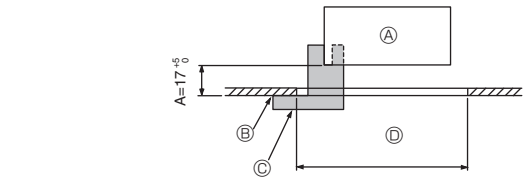
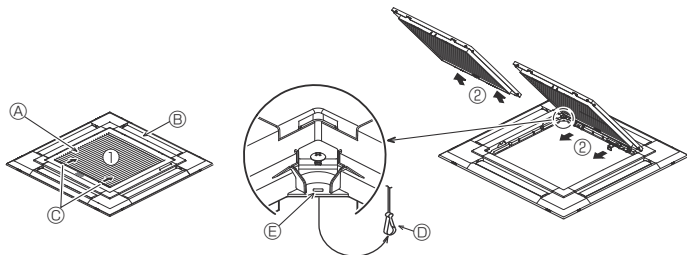
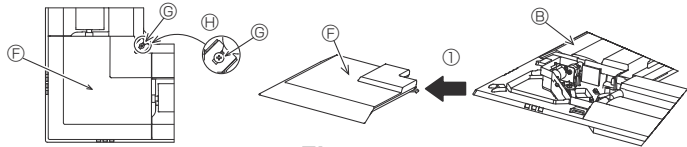

Fig. 7-2
Fig. 7-3
Fig. 7-4
①	Grille	1	950 × 950 (mm)
②	Installation gauge	1	(Divided into 4 parts)
③	Screw (4 × 16)	1	For PLP-6EAE, PLP-6EALME, PLP-6EALME
④	i-see Sensor corner panel	1	For PLP-6EAE, PLP-6EALME, PLP-6EALME
⑤	Wireless remote controller	1	For PLP-6EALM, PLP-6EALME
⑥	Remote controller holder	1	Included when equipped with the wireless remote controller.
⑦	LR6 AA batteries	2	Included when equipped with the wireless remote controller.
⑧	3.5 × 16 tapping screws	2	Included when equipped with the wireless remote controller.
7.2. Preparing to attach the grille (Fig. 7-2)
- With the gauge ② supplied with this kit, adjust and check the positioning of the main unit relative to the ceiling surface. If the main unit is not properly positioned relative to the ceiling surface, it may allow air leaks or cause condensation to collect.
- C Installation gauge ② (inserted into the main unit)
7.2.1. Removing the intake grille (Fig. 7-3)
- Slide the levers in the direction indicated by the arrows ① to open the intake grille.
- With the intake grille in the "open" position, remove the hinge of the intake grille from the grille as indicated by the arrows ②.
7.2.2. Removing the corner panel (Fig. 7-4)
- Loose the 4 screws on the corner. Slide the corner panel in the direction of the arrow ① in the figure and remove the corner panel.
[Fig. 7-3] [Fig. 7-4]